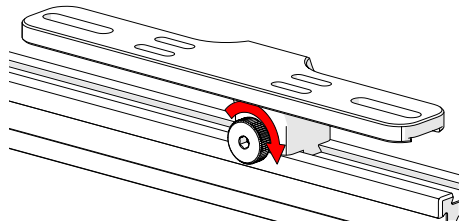

Fig. 99 - Tighten knob
2. Tighten the knob to lock the preamp bracket in place (*Fig. 99*).